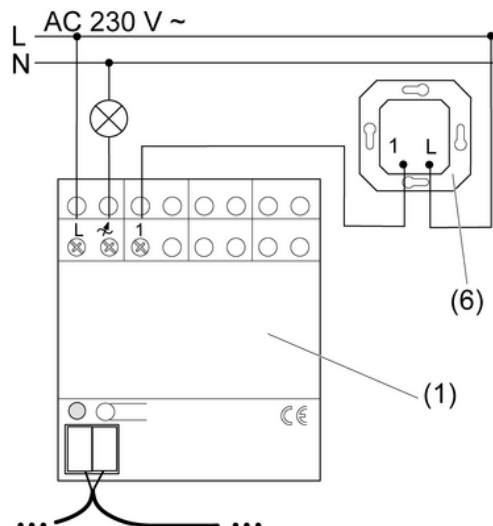
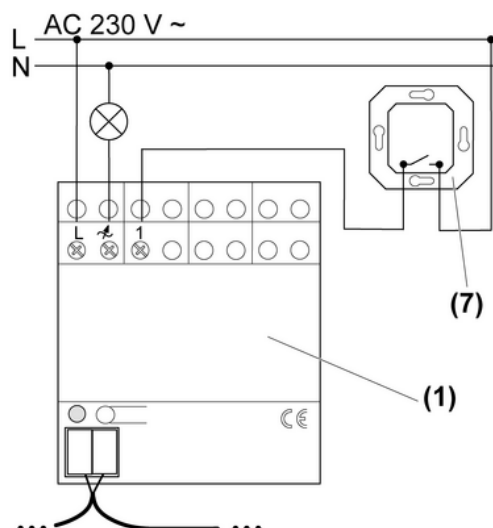

Figure 3: Connecting a 2-wire extension (6)
Figure 4: Connecting a non-illuminated installation button (7)
- Mount dimmer (1) on DIN rail.
- Connect dimmer, load and if necessary extension in accordance with the appropriate connection diagram (Figure 3) or (Figure 4).